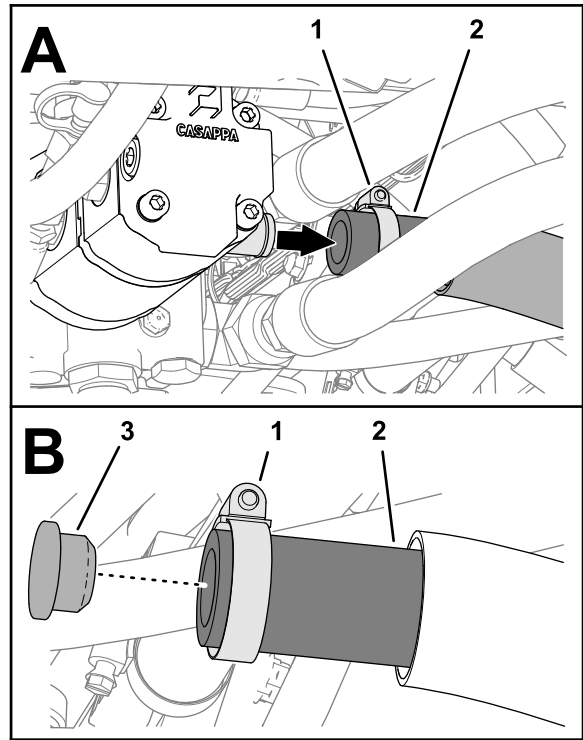

Figure 43
- Loosen the hose clamp that secures the suction hose to the hydraulic pump (Figure 43).
- Remove the suction hose from the barb fitting of the pump and insert the hose plug into the hose (Figure 43).